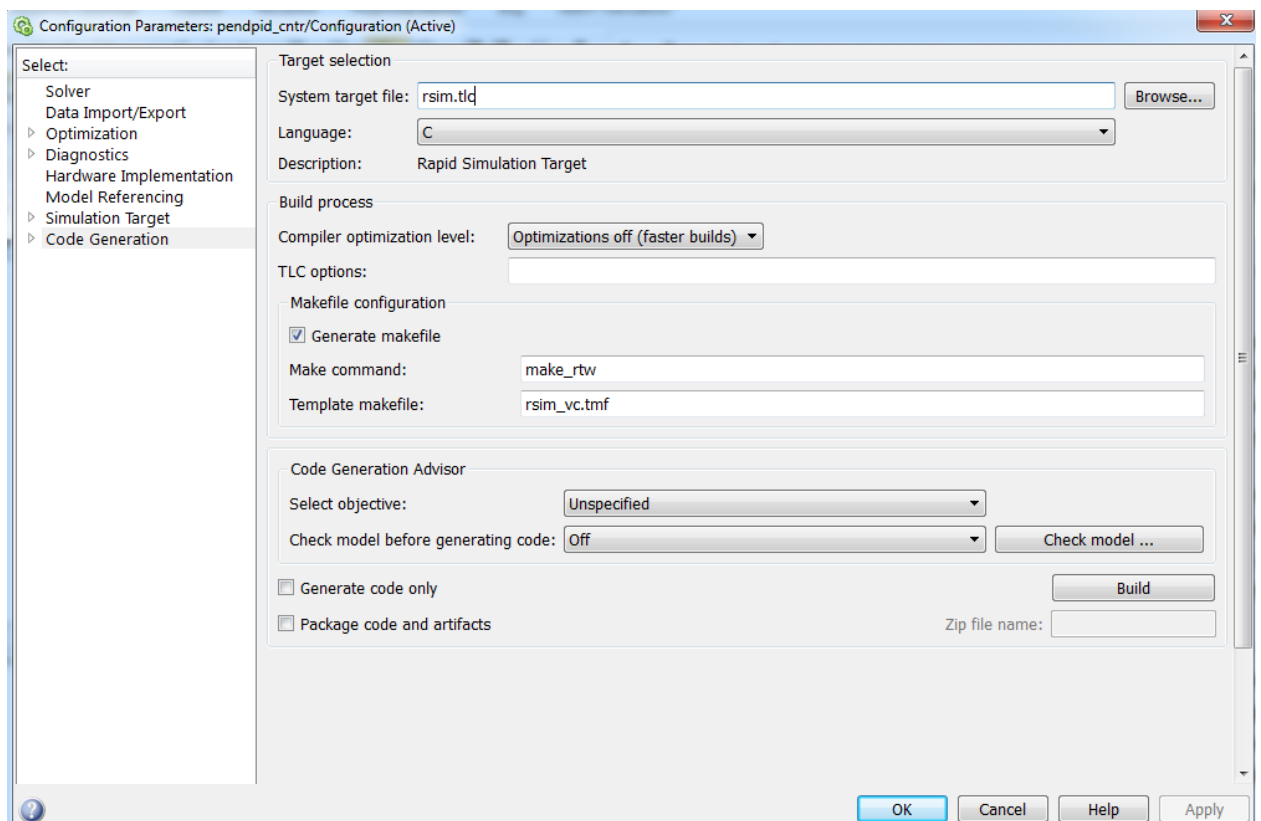
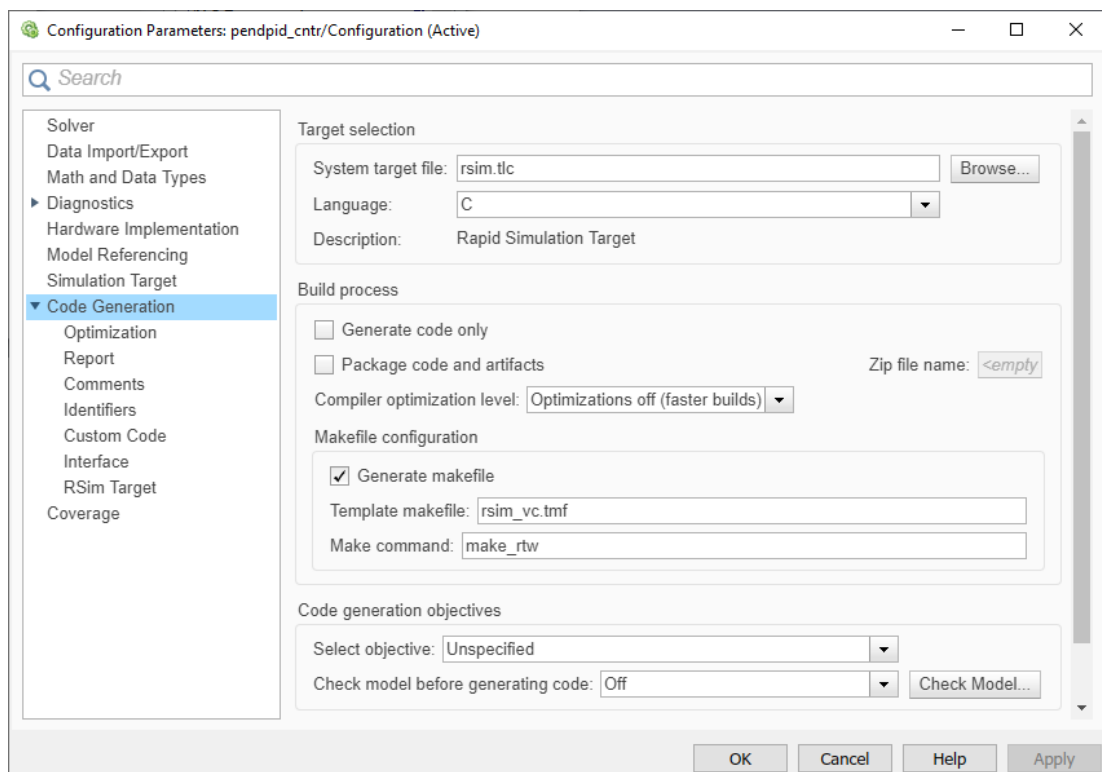

Figure 3.2. Compiling options in Matlab 8.X R2011-R2015
Figure 3.4. Code Generation settings in Matlab 9.X (R2016-R2020)
1. Point to the [pendpid_ctrl] model’s window, see Figure 3.2.
2. In the **MODELING** gallery select **Model Settings / Model Settings** (see Figure 3.2) or click the right mouse button on the white background of the window and from the context popup menu select the **Model Configuration Parameters** menu item. **Configuration Parameters** window appears, see Figure 3.4.